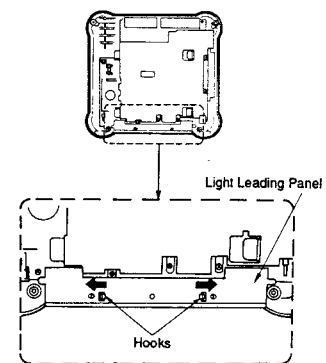

Figure 7
(2) Gently pull out the light leading panel from the bottom cabinet while pushing two hooks as shown in Figure 7.